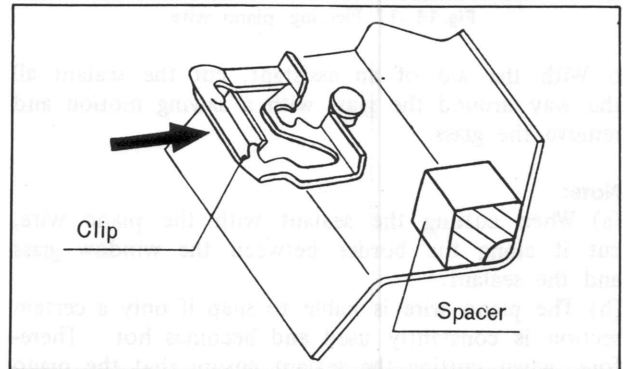

Fig. 14-25 Installing mould retaining clip
5. Insert each mould retaining clip to the clip insertion portion in the manner shown in Fig. 14-25. Replace the retaining clips as required to insure adequate mould retention.